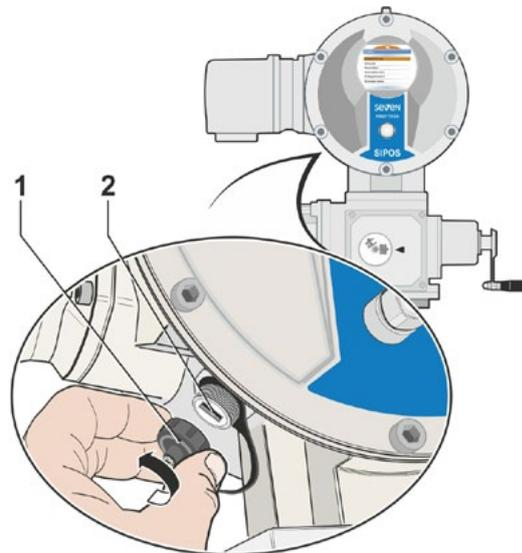

Fig. 1: USB port
1. Unscrew the protective cap of the USB port (fig.1, item 1) (it is provided with a plastic band for retention).